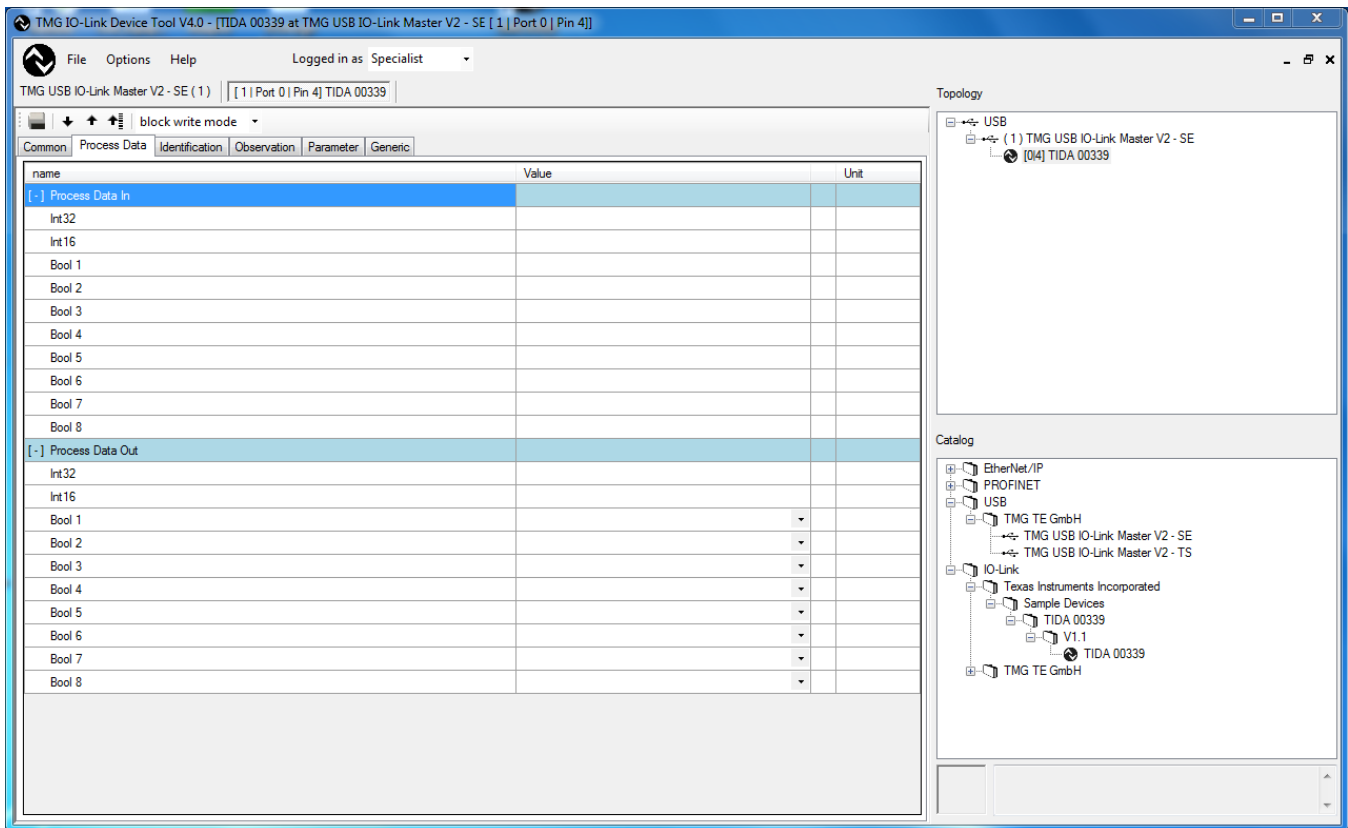

図 19. IO-Link Master GUI—Process Data Tab
- Figure 19 shows the Process Data tab, which shows the content of the available variables.